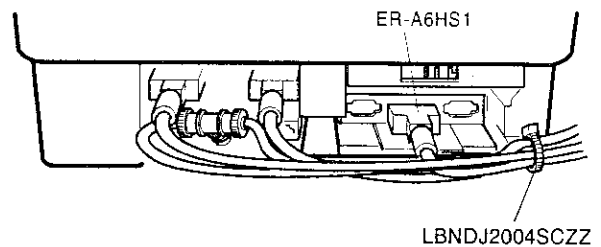

Fig. 7
- 2) The picture below shows how to pull out the cables from the right side. (Fig. 7)